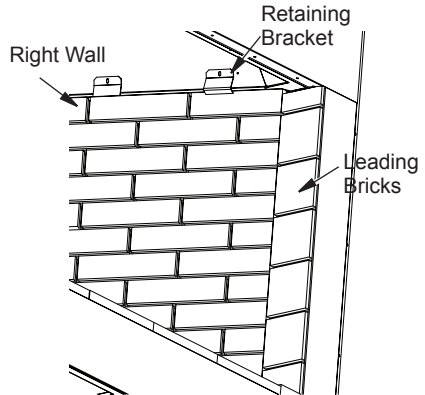

Figure 22 - Installing Side Walls
3. Secure the firebrick wall using 2 of the retainers provided. The bracket will slip underneath the metal lip on the top of the wall and screw into the inner dome of the fireplace (Figure 22).